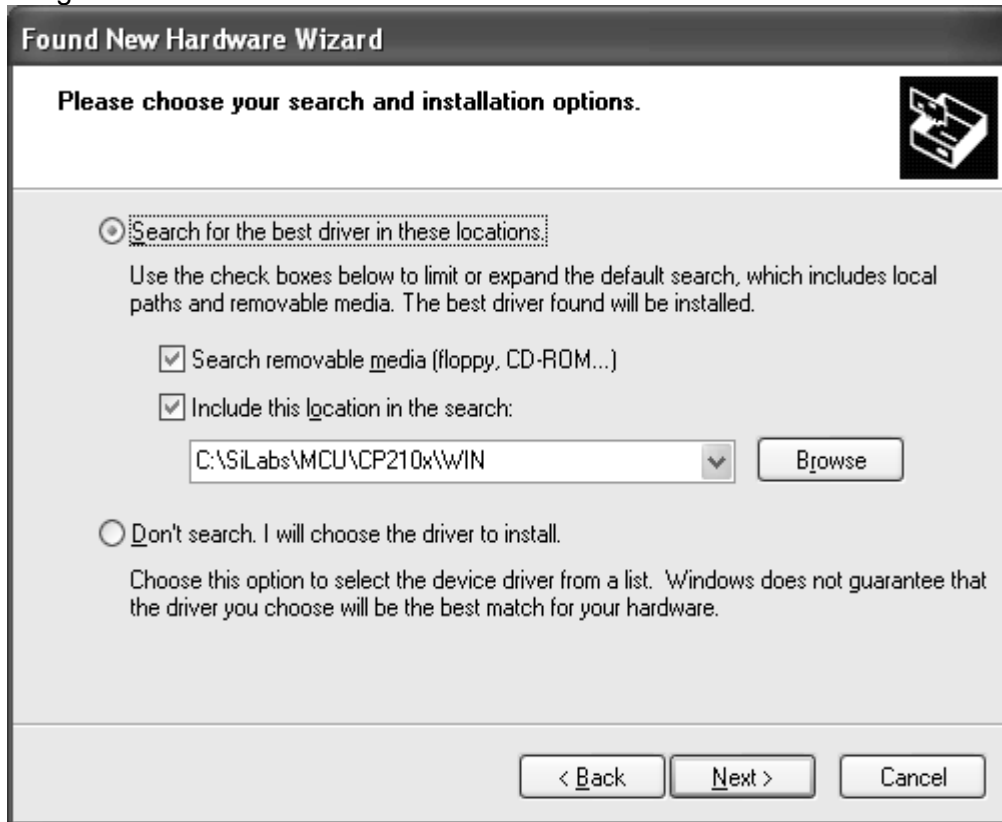

Fig. 38 New Hardware search wizard
- (13) Click **Next** to display the screen shown in Fig.38. Select "**Search for the best driver in these locations**" and input "**C: \SiLabs\MCU\CP210x\WIN**" in the blank directly or click **Browse** to select the folder. If you have installed the driver in a folder different from default setting, select the changed folder.